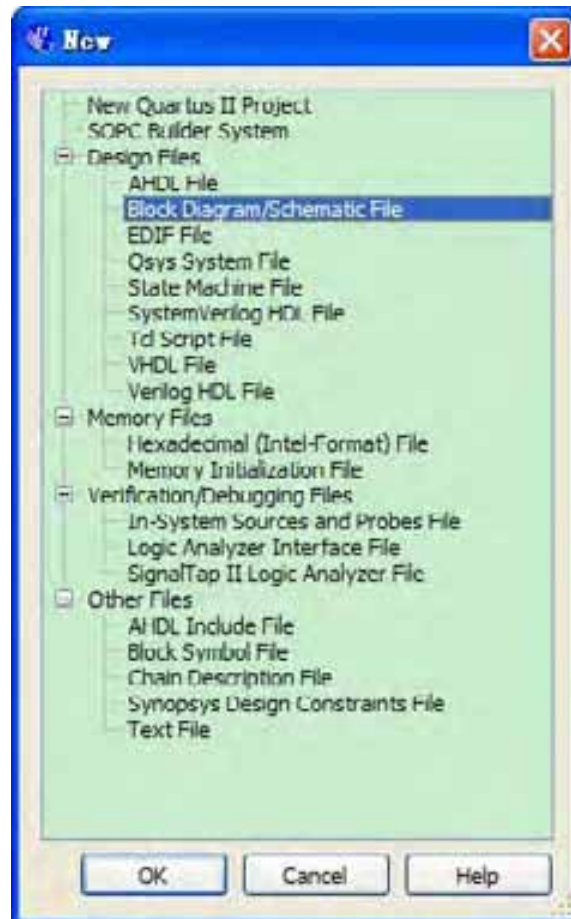

Figure 6-12 New BDF
1. Select File > New > Block Diagram/Schematic File (see Figure 6-12 to create a new file, Block1.bdf, which you will save as the top-level design.